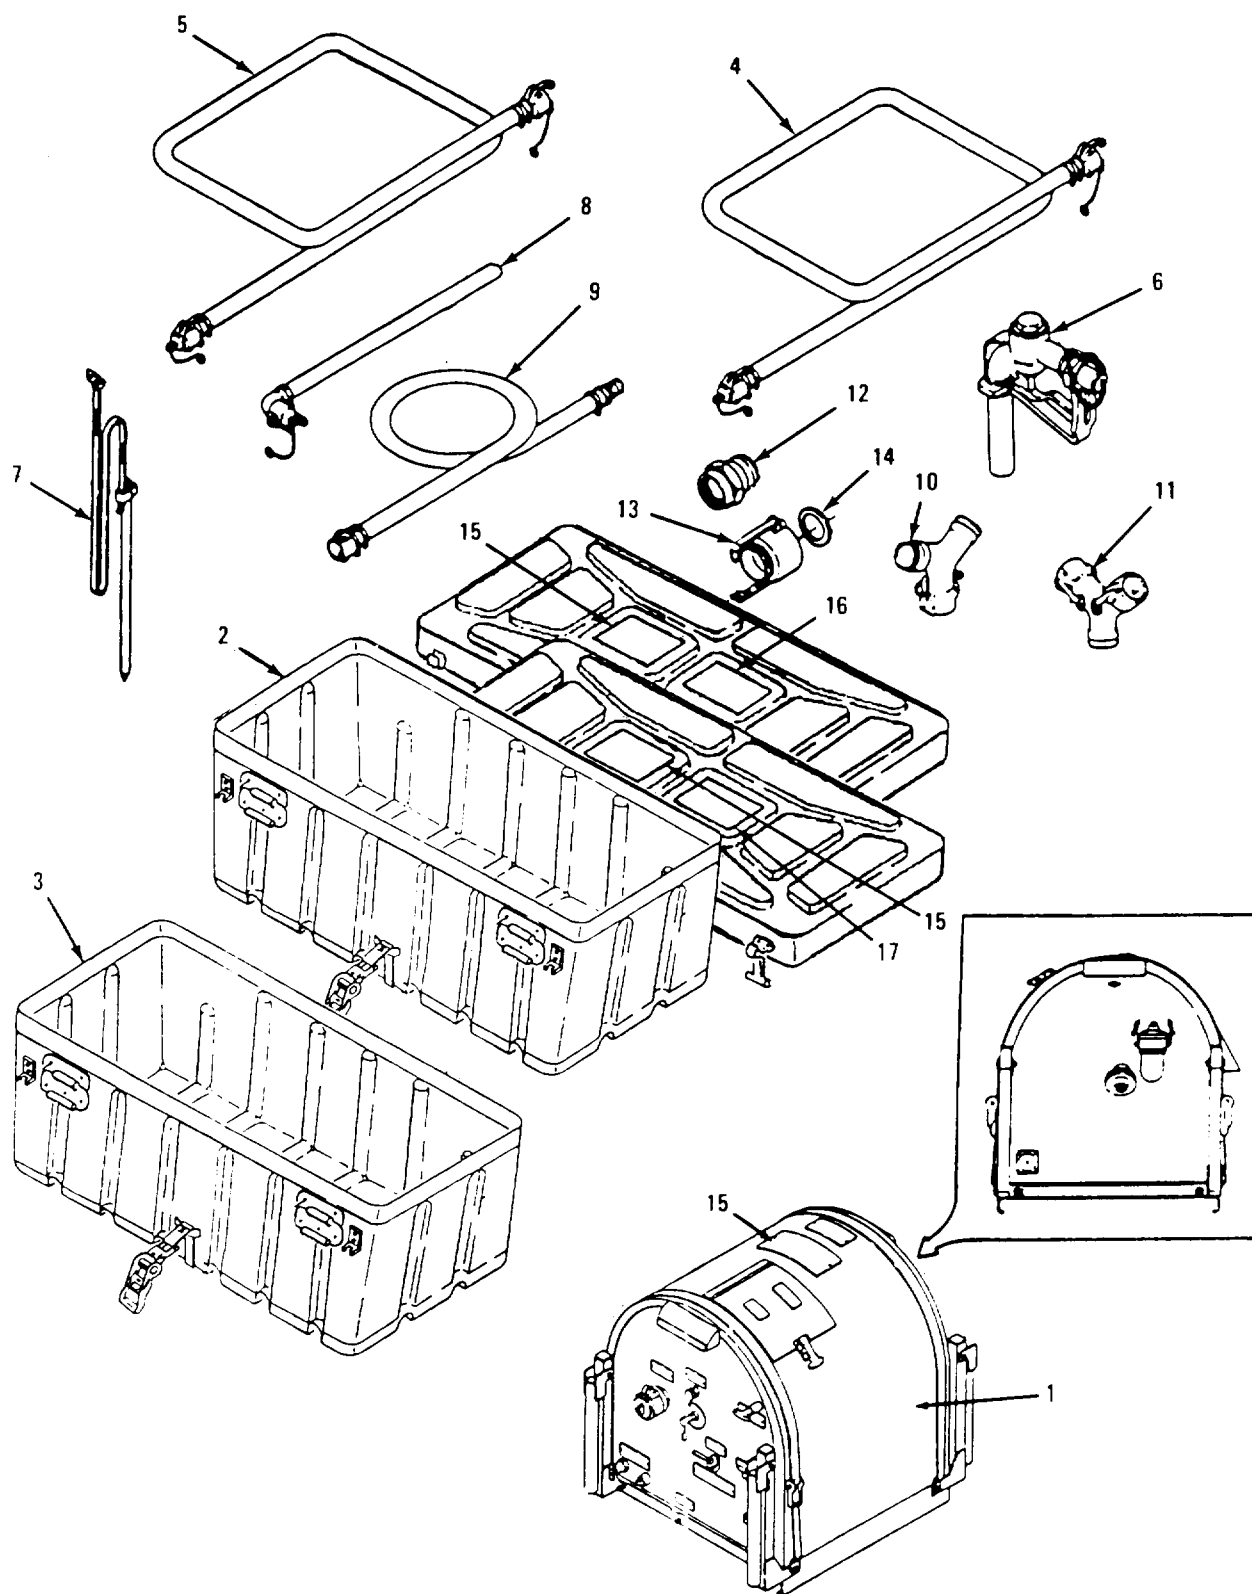

Figure 1-1. Pumping Assembly, Major Components
a. *Pumping Assembly* (See Figure 1-1).
- (1) Pump Unit (one each)
- (2) Storage Chest 1 (one each)
- (3) Storage Chest 2 (one each)
- (4) Discharge Hose Assembly (three each)
- (5) Suction Hose Assembly (three each)
- (6) Nozzle Assembly (two each)
- (7) Ground Rod With Attachments (one each)
- (8) Drum Suction Stub Unloader
- (9) 10 foot long suction hose (two each)
- (10) Double Male Y-Connector (one each)